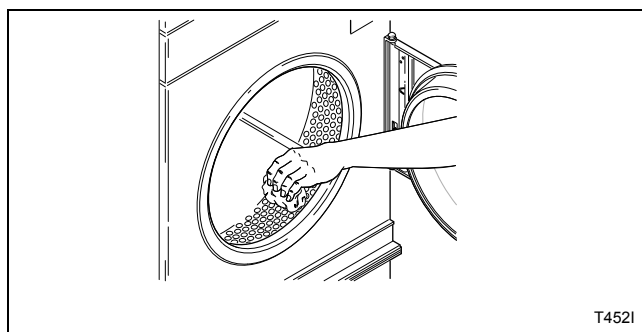

Figure 14
10. Wipe out the cylinder using an all-purpose cleaner or detergent and water solution. Refer to *Figure 14*.